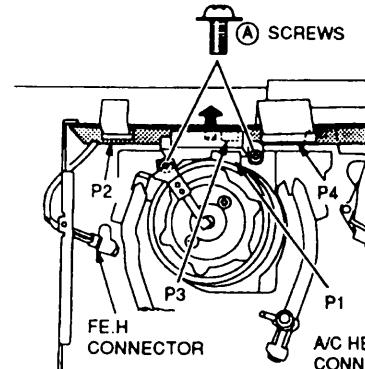

Fig 1.
- 3: Remove one of the (A) screws and remove the EARTH BRUSH.
- 4: Remove the other (A) screw, then press the lower side of the shield case in the direction of the arrow as shown in Fig 1.